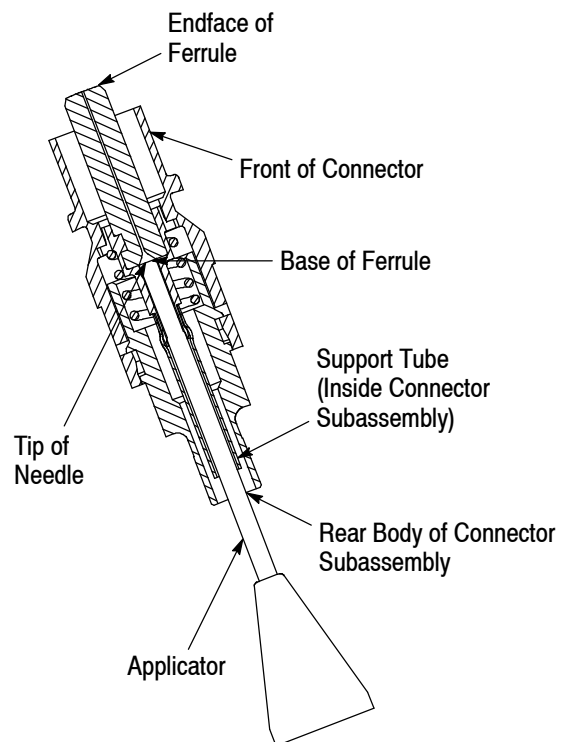

Figure 5
3. Hold the connector subassembly in an upright position, and insert the tip of the needle into the rear body and support tube of the connector subassembly until the tip of the needle touches the base of the ferrule. Refer to Figure 5.
4. Keeping the tip of the needle against the base of the ferrule, *slowly* inject the epoxy or adhesive into the connector subassembly until a small bead of epoxy or adhesive exits from the endface of the ferrule. See Figure 5.